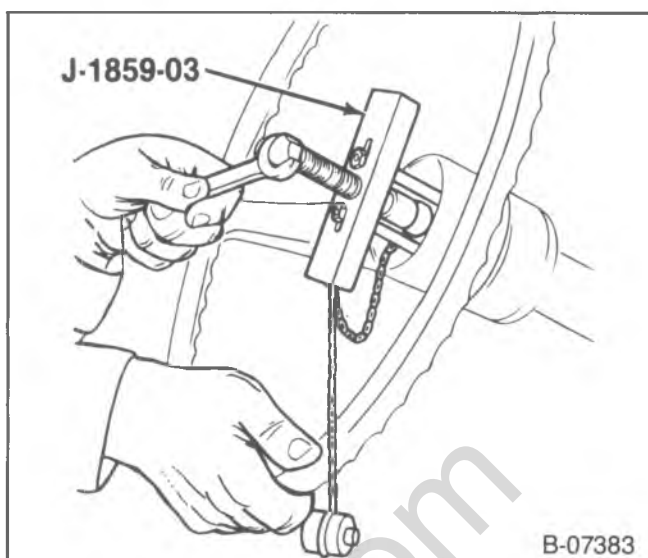

Figure 4—Steering Wheel Removal
↔ Remove or Disconnect (Figure 4)
5. Steering wheel. Use J-1859-03 (figure 4). Do not hammer on the puller, or damage could result to the steering column.